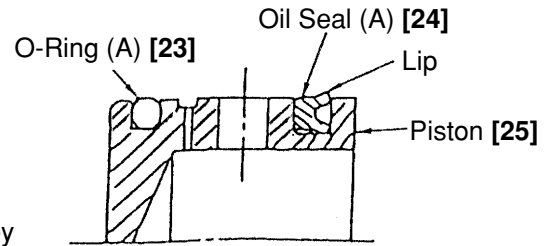

Fig. 18
- Mounting of Oil Seal (A) [24]
When mounting Oil Seal (A) [24] on the Piston [25], ensure that the lip portion of the Oil Seal is directed toward the rear surface of the Piston [25], as illustrated in Fig. 18. Prior to reassembly, thoroughly coat Oil Seal (A) [24] and O-Ring (A) [23] with grease (Grease for Impact Drill, Part No. 980927 or 981840 or 308471 is recommended), and carefully ensure they are not damaged.